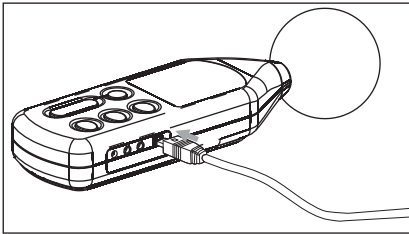

Figure 26
- Insert one end of USB wire into the USB socket on the unit, as shown in figure 26: